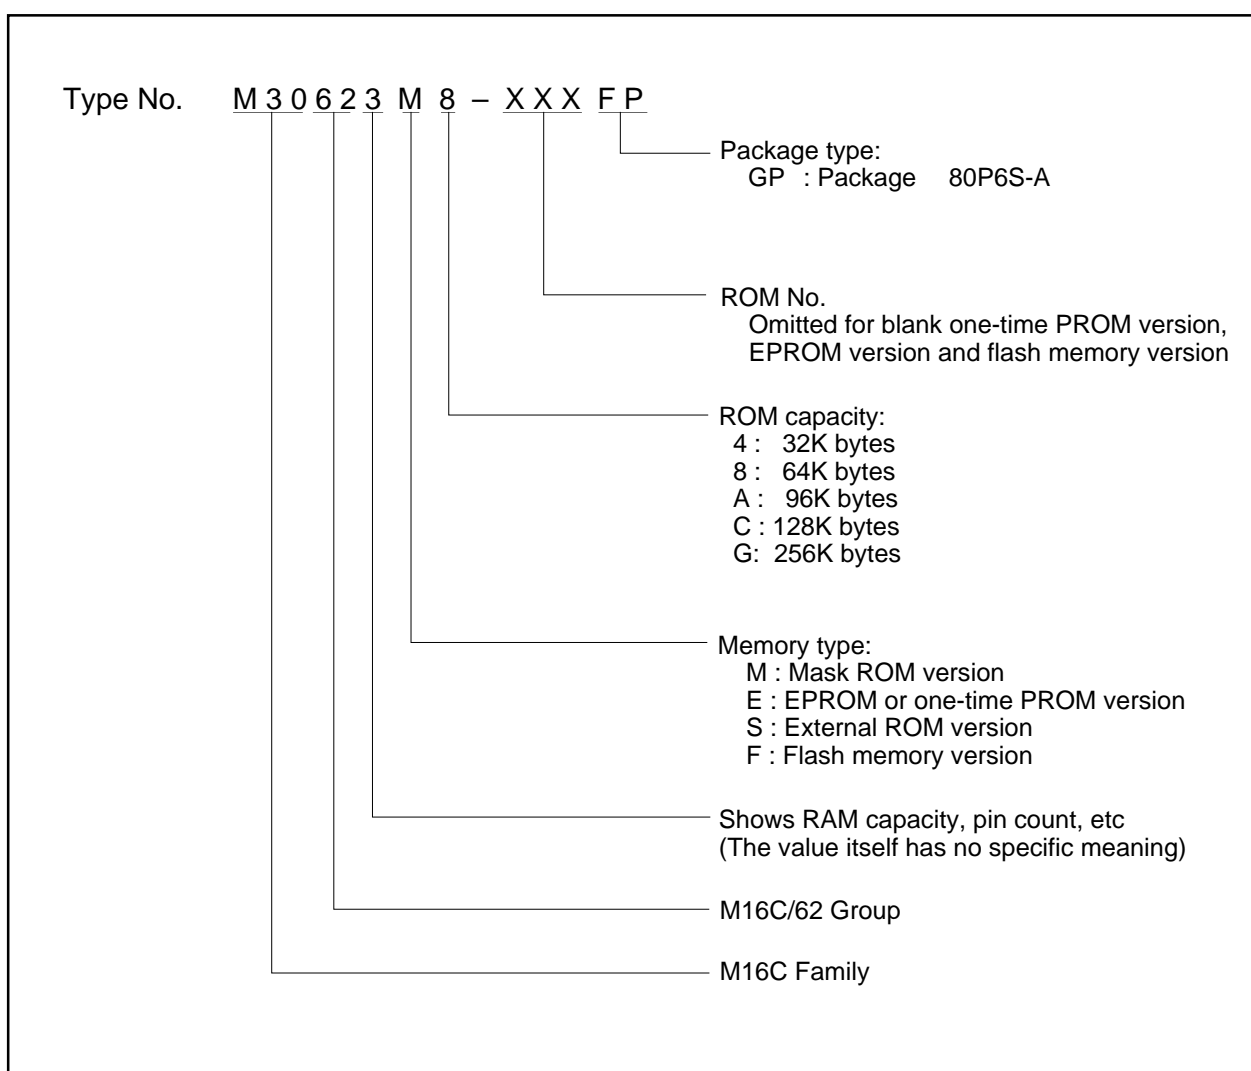

Figure 1.1.4. Type No., memory size, and package
- Memory capacity ..... ROM (See Figure 1.1.4. ROM Expansion)